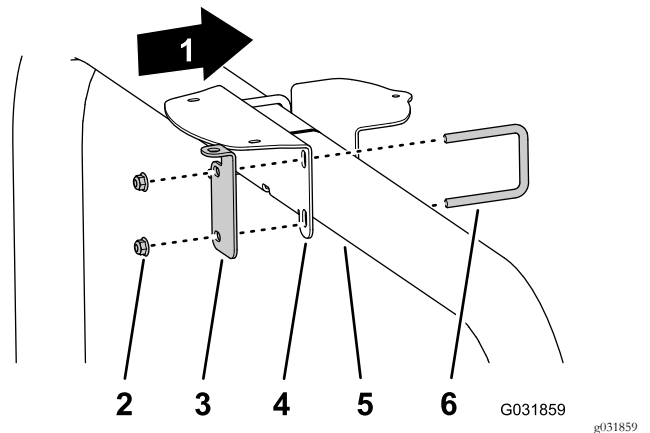

Figure 144
- If your machine has GNSS and the CDMA or GSM RTK correction modem kit, assemble the receiver mount and RTK-antenna bracket to the ROPS tube (Figure 144) with the 2 U-bolts and 4 flange locknuts (3/8 inch).